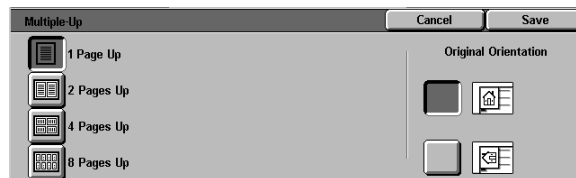

Figure 6: Multiple-Up screen with default selected
- 1 Touch the **Multiple-Up** icon on the Output Formats tab to display the Multiple-Up screen, as in Figure 6.